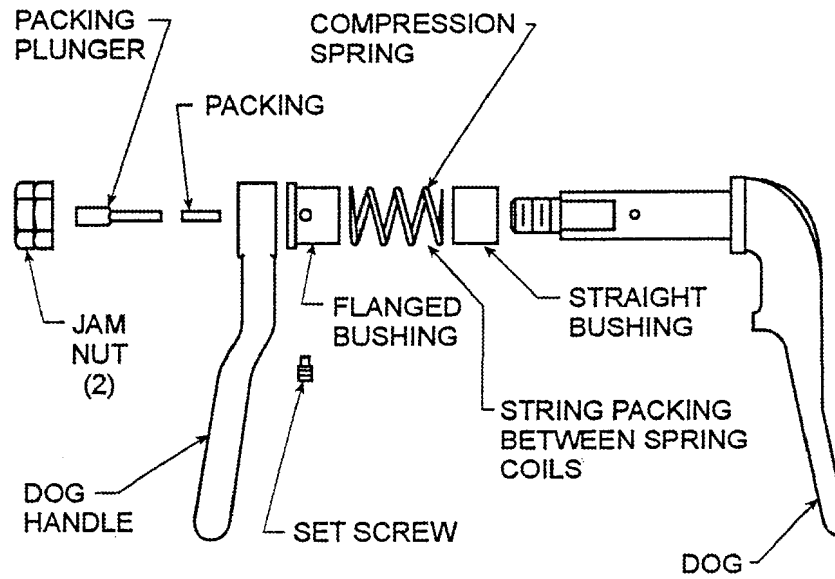
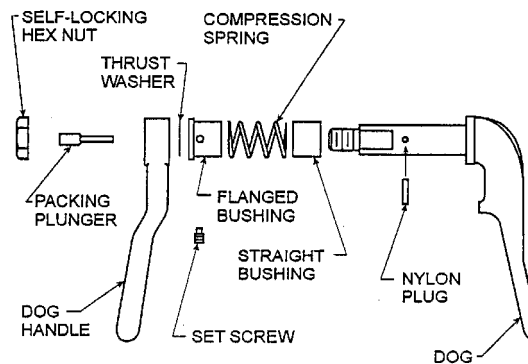
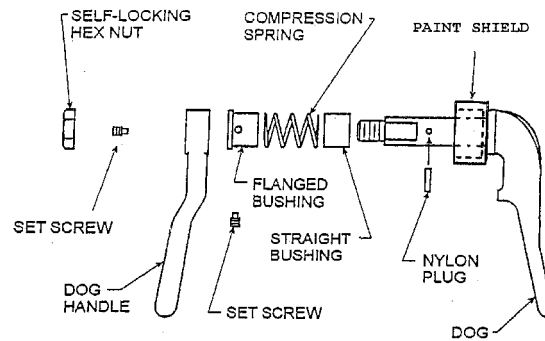

Figure 600-2.28. Individually Dogged Door Dog Assembly (Cross Sectional View)
Figure 600-2.29. Individually Dogged Door Dog Lever Assembly (Cross Sectional View) Modified by MACHALT 167-31004(ECP-444)
Figure 600-2.30. Individually Dogged Door Dog Assembly (Cross Section View) Modified by MACHALT 167-31010 (ECP-526)
- g. Inspect each dog assembly. Ensure that the straight bushing is firmly seated against the back of the dog and is free of dirt, rust, and paint. Ensure the flanged bushing is firmly seated against the end of the dog sleeve and is secured in place by its dog point setscrew. See figure 600-2.28. Setscrews are often painted over and may be difficult to locate. Remove paint as necessary to inspect for loose, missing, or broken setscrews. For self-lubricated bushings, a CRES thrust washer should be installed between the dog handle and the face of the flanged bushing. See figure 600-2.29.
- i. Ensure both jamnuts or self-locking hex nuts are in place on each dog assembly. Jamnuts should be locked tightly together. Remove any paint or dirt from the bushings with a wire brush and a clean rag. The straight bushing should not be stuck in the spindle sleeve and should rest against the back of the dog. If the bushing is jammed or stuck in the sleeve, it will have to be removed, and the interior of the sleeve cleaned out and lubricated, to ensure a free sliding fit of the bushing in the spindle sleeve. See figure 600-2.28, figure 600-2.29, and figure 600-2.30.